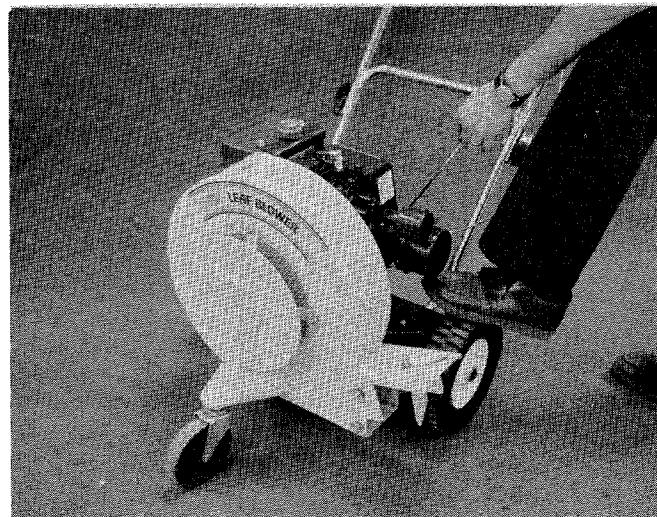

FIGURE 9
- Pull starter rope with quick, full stroke once. Move hand throttle to fast position and pull starter rope again. See figure 9.